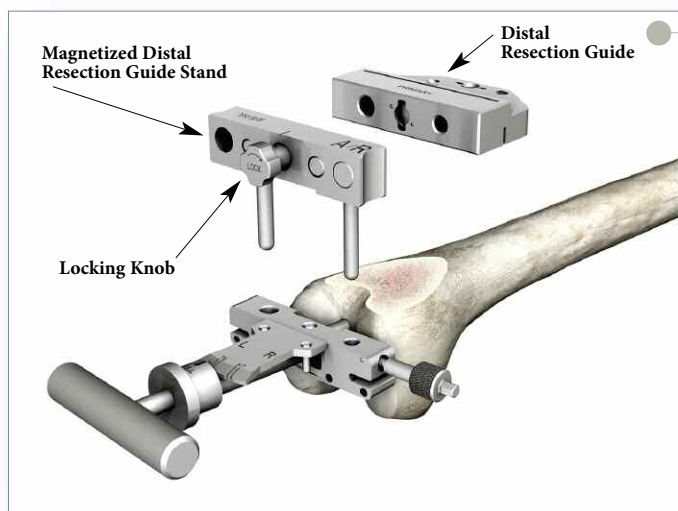

Figure 19
- ▶ Assemble the 8mm or 10mm Distal Resection Guide to the Distal Resection Guide Stand by placing the Guide over the pegs. These guides are magnetized to assure correct assembly. The resection guide may then be locked into place by pushing in and turning the Locking Knob 1/4 turn clockwise (Figure 19).